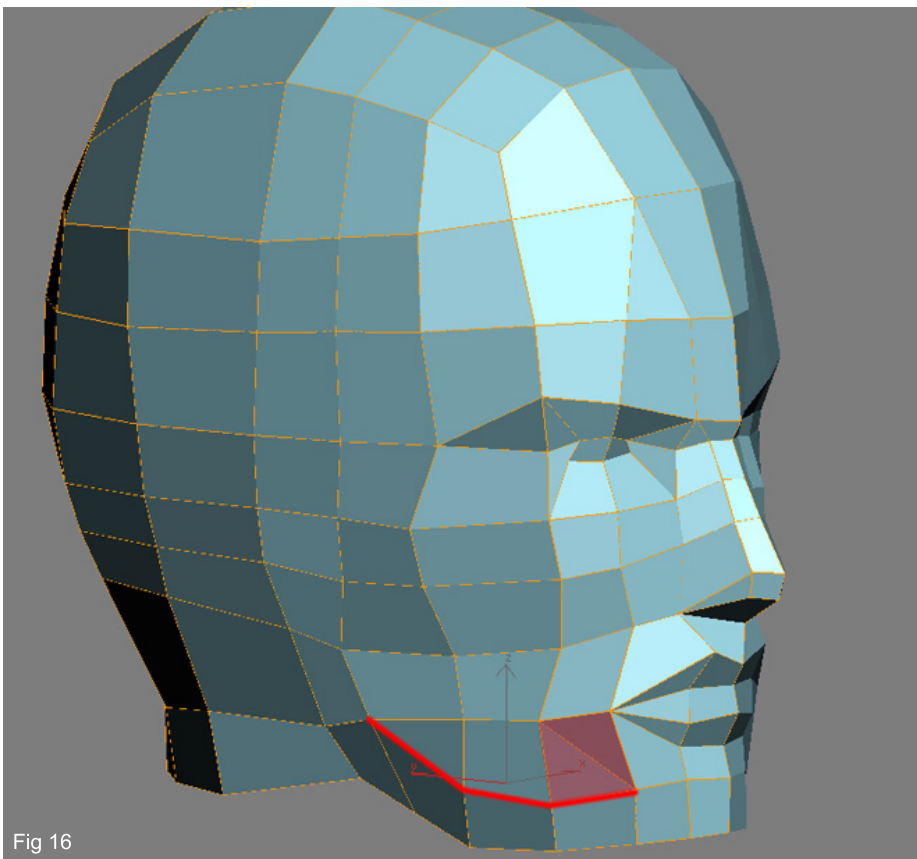

Fig 16
16. To improve the chin a bit more we shall make a further cut to help form the jaw line as shown by the red line in Fig16. You will also notice that the purple poly (the one we originally cut) is made up of two triangles. We can delete this and create a quad in its place using the "Create" tool in sub-object poly mode. This will leave only the one further back on this section of the jaw.